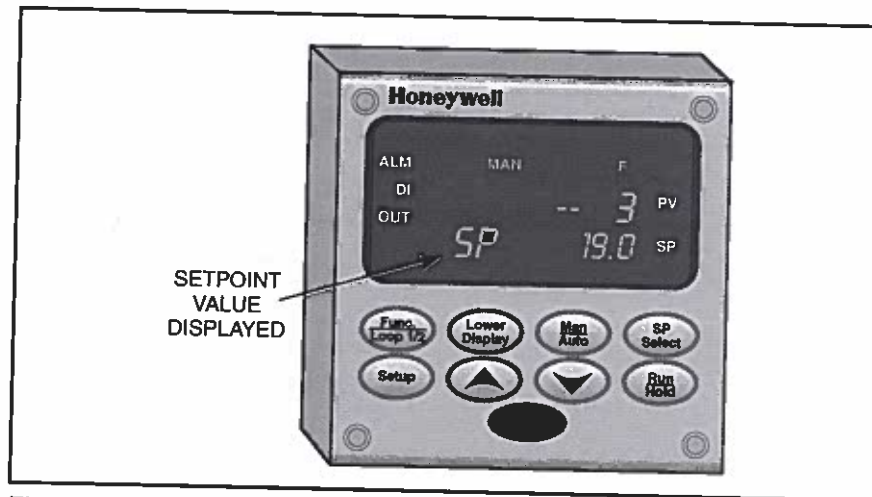

Figure 37. Lower Display Showing the Setpoint Value
- ❑ 6. Continue to press the **Lower Display** key until SP appears in the lower part of the display screen, as shown in figure 37.